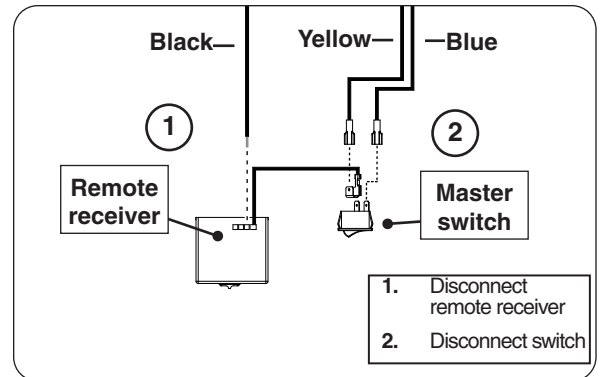

Fig. 49-1 Disconnect receiver & switch wires
3. Locate the remote receiver on the control panel, remove the 2 hex screws using a 1/4" nut driver, then pull the receiver (and bracket) out of the control panel. Disconnect the receiver and switch wires as shown in Fig. 49-1, steps 1-2.